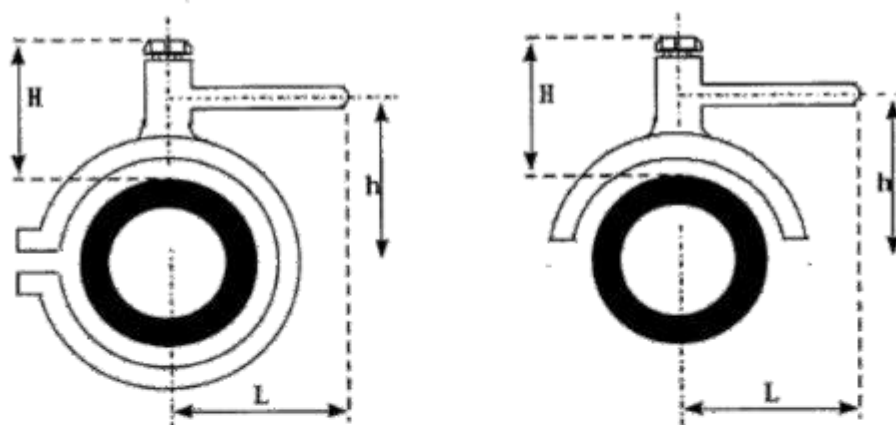

FIG.2
- Maximum saddle height (H in figure 2)
- the height of the branch pipe for supports (h in figure 2)
The main symbols are shown in the figure 2 below: